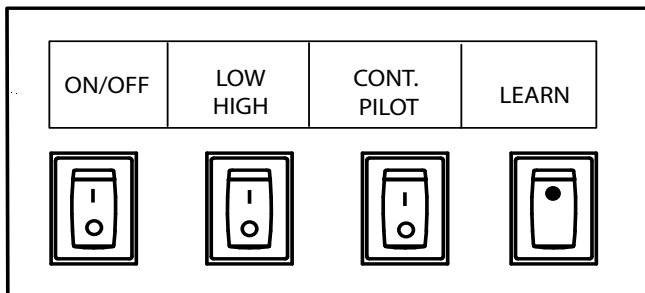

Figure 42 Control panel
1. To **LEARN** (pair) the remote transmitter to the control module, press and release the **LEARN** button (switch) in the control box. See *Figure 42*. You will hear single audible beep indicating the module is ready to learn the transmitter security code. Press any button on the transmitter within 60 seconds. The code is accepted when you hear 4 short beeps in rapid succession. Security codes will be retained in memory indefinitely if power is removed. Note: Control module accepts a total of three (3) wireless transmitters.